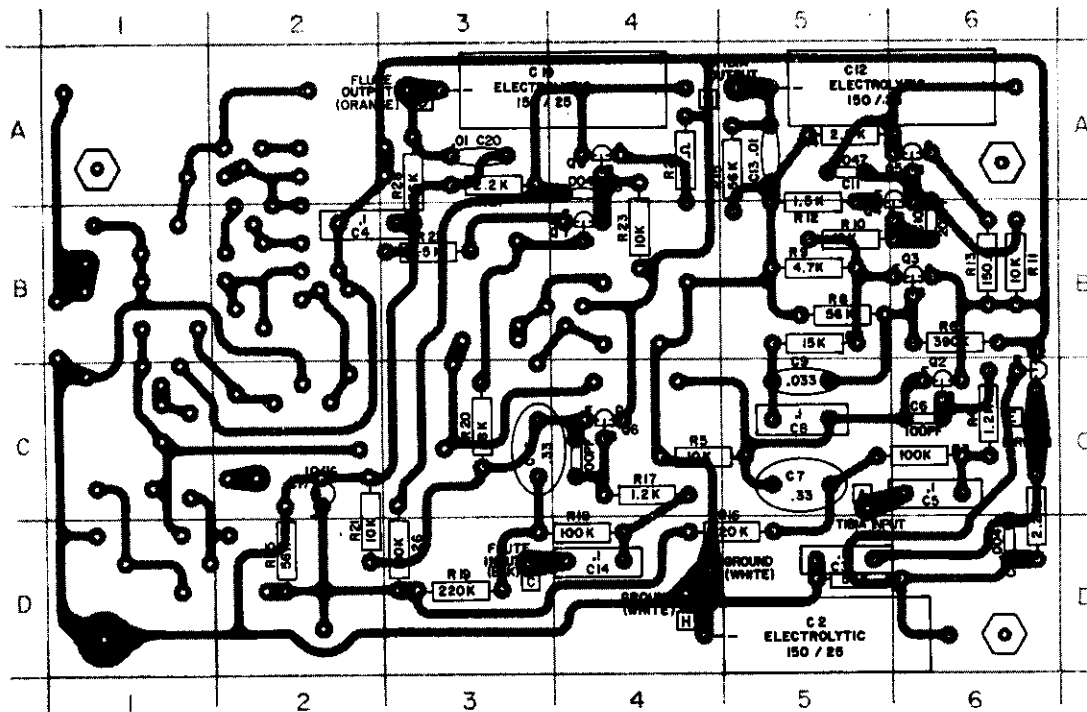

Figure 4. Circuit Board Assembly 066936
* See Figure 4 , Circuit Board Assembly 066936